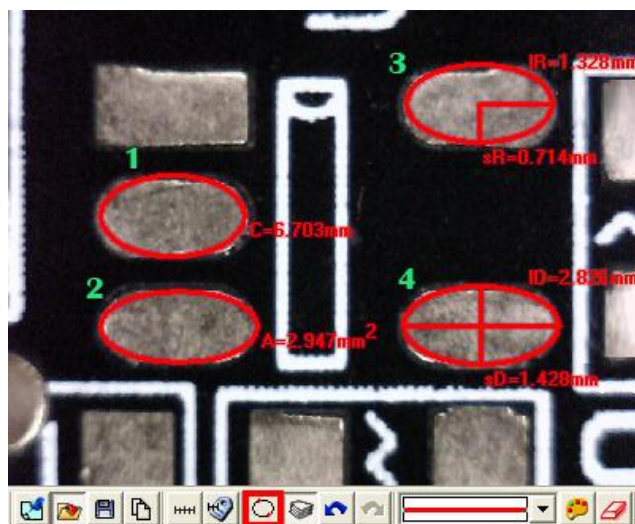

Fig 5-67 Oval
- (4) Oval: Measure an oval circle and use . Firstly choose Fig.5-67 Scale information setting dialog. To point any dot on an oval, pressing the left mouse button, and drag to fit the oval on an observation object. Same methods as Circle to be measured for 2 Points Circle and 3 Points Circle, 1st oval $C=6.703\text{mm}$, 2nd oval $A=2.947\text{mm}^2$, 3rd oval: $lR=1.328\text{mm}$, $sR=0.714\text{mm}$, 4th oval $lD=2.826\text{mm}$, $sD=1.428\text{mm}$.